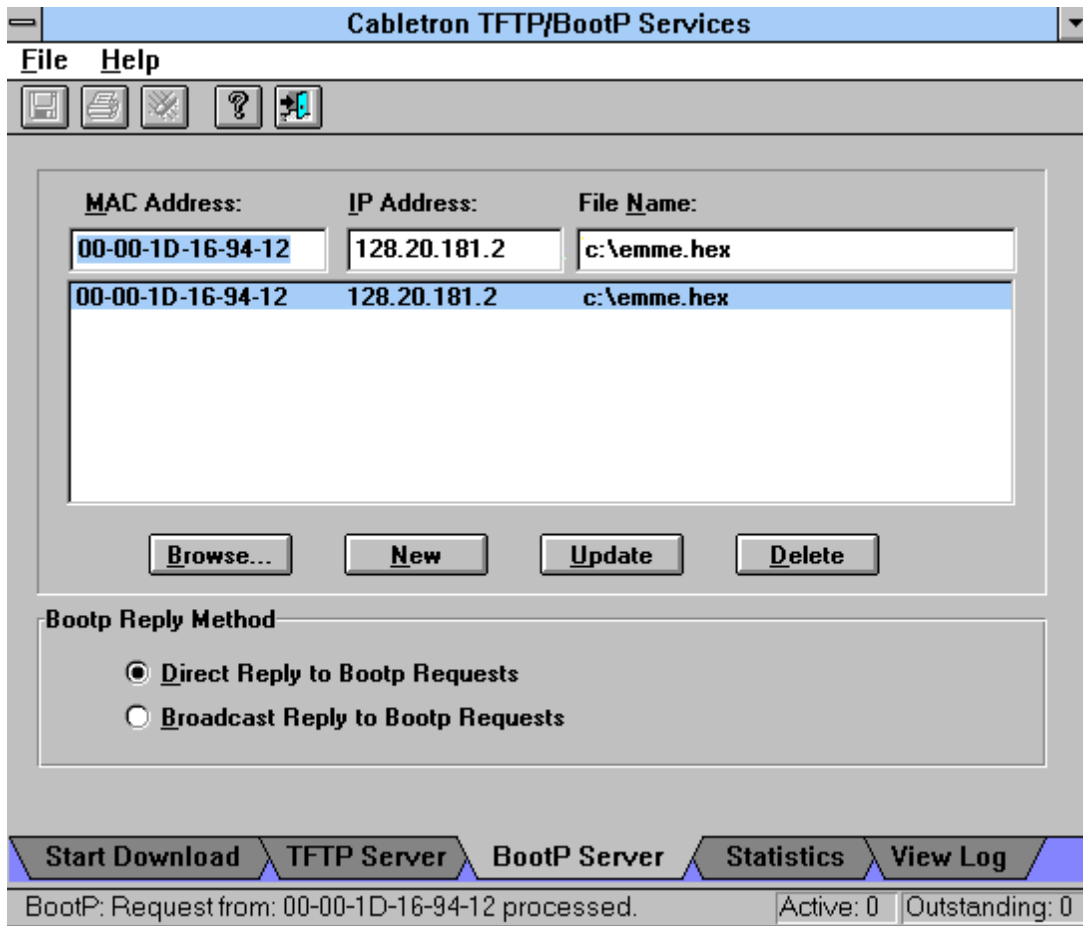

Figure 3-8. BootP Server Screen
- Click on the **BootP Server** tab. The BootP Server screen (**Figure 3-8**) is displayed.